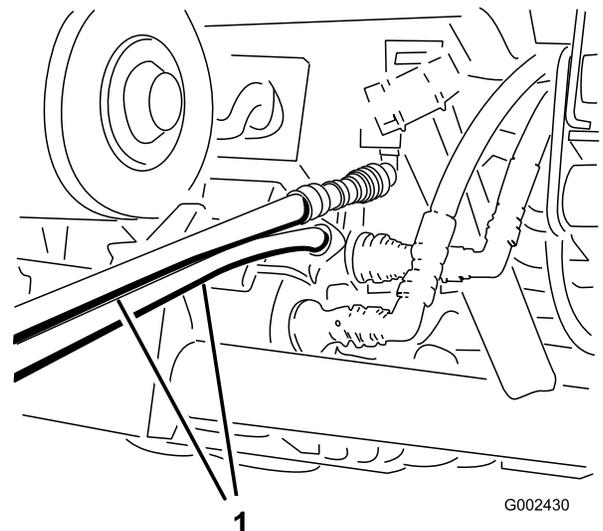

Figure 82
4. On the other vehicle, connect the two hoses to the coupler still in the coupler bracket (connect the top hose to the top coupler and the bottom hose to the bottom coupler) (Figure 82). Cap the unused fittings.